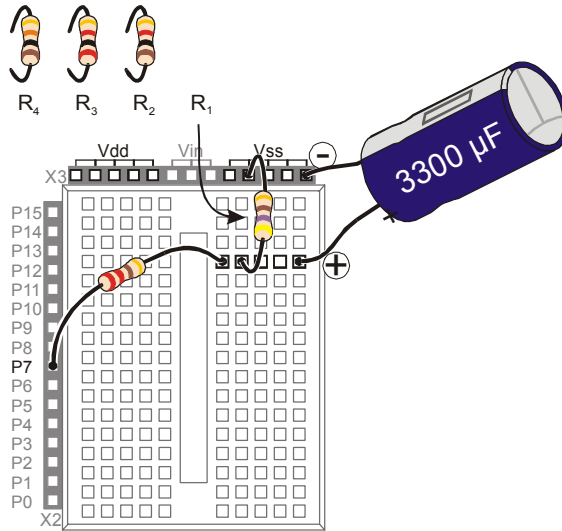

Figure 5-9
Figure 5-8 shows the circuit schematic and Figure 5-9 shows the wiring diagram for this activity. You will be taking time measurements using different resistor values in place of the resistor labeled R_1 .
Your 3300 μF capacitor will work fine in this experiment so long as you make sure that the positive (+) and negative (-) terminals are connected EXACTLY as shown in Figure 5-8 and Figure 5-9.
- √ Remove the 470 Ω resistor labeled R_i in Figure 5-8 and Figure 5-9 on page 145, and replace it with the 1 kΩ resistor.